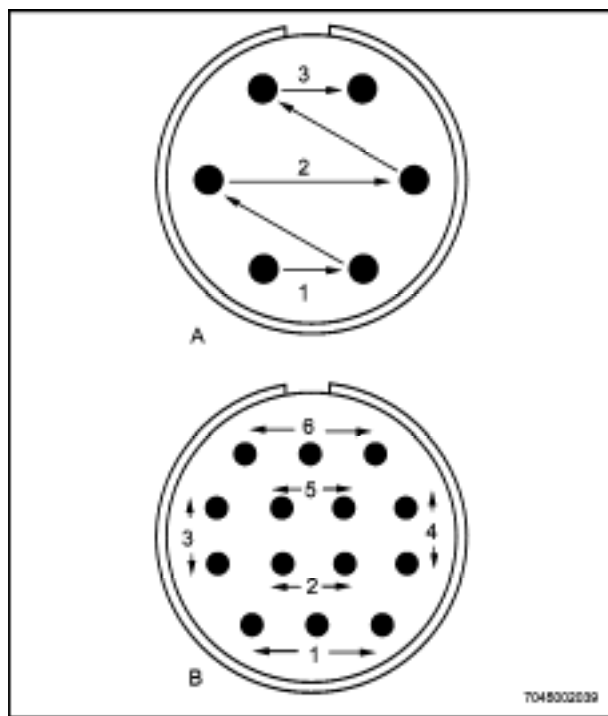

Figure 10-12 Connector Soldering Sequence
21. Follow a rigid sequence in soldering wires to a connector. This helps avoid errors in wiring and also prevents burning or scorching the insulation of wires already soldered. Two useful sequences are shown in Figure 10-12.
- a. The soldering of the connector in Figure 10-12 detail "A" is started at the right or left lower edge, depending on whether the technician is left or right-handed, and follows the bottom row across. The row above is next and is done in the same direction as the bottom row. This will permit the insert to cool between soldering operation. The operation is repeated for each row in sequence until all contacts are soldered.
- b. The sequence for the connector shown in Figure 10-12 detail "B" also starts with the bottom row from the right or left. The next step is to solder to the centre contacts working out to each edge. The